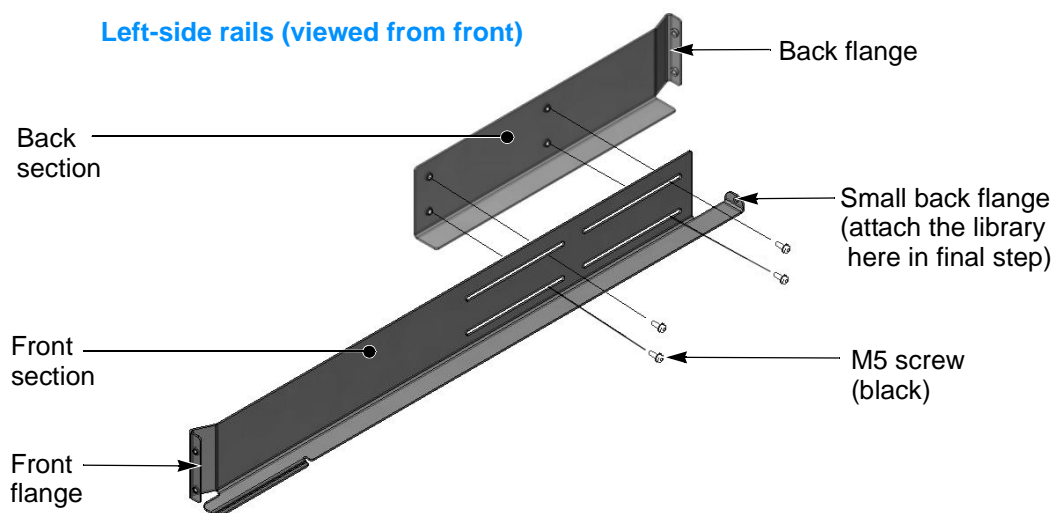

Figure 2-1 Assembling the left-side rail
2. Position the front and back sections of the left-side rail as shown in Figure 2-1, with the front rail section on *top* of the back rail section. Spread the sections to the distance you measured in step 1.